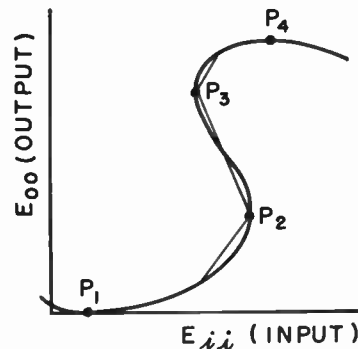

Fig. 6—Modification of equilibrium conditions.
Operation near the special points must be carefully considered. Observe P_2 in Fig. 6. If the system is in
as dE_{00}/dE_{ii} , it will be noted that the system would have infinite incremental gain. Likewise, (13) designating G would be found to be infinite. Obviously, both of these conditions are impossible. It has been found to be practical in the case of function generators to alter the function at points of infinite slope so that the slope on both sides of the special point is finite and is undetermined at the point itself as shown in Fig. 6.